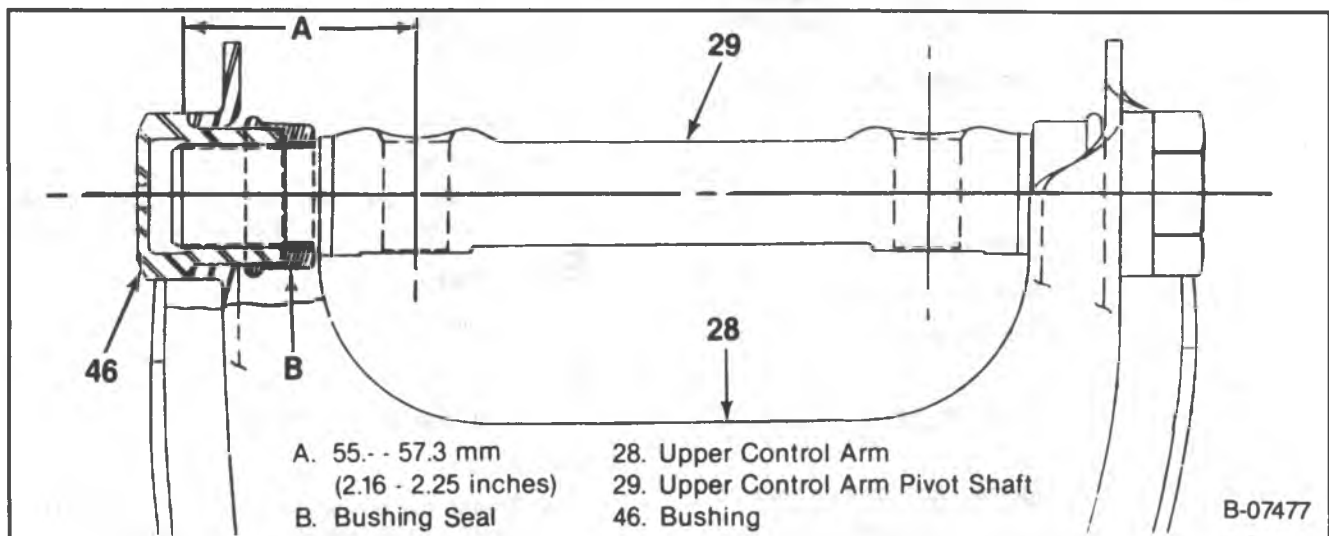

Figure 33 — Centering the Upper Control Arm Shaft (R-P20/2500, 30/3500 and G30/3500 Models)
1. New inner seals onto the pivot shaft (29).
2. Pivot shaft (29) into position inside the upper control arm.
- The pivot shaft (29) must be centered in the upper control arm (28) as shown in figure 33.